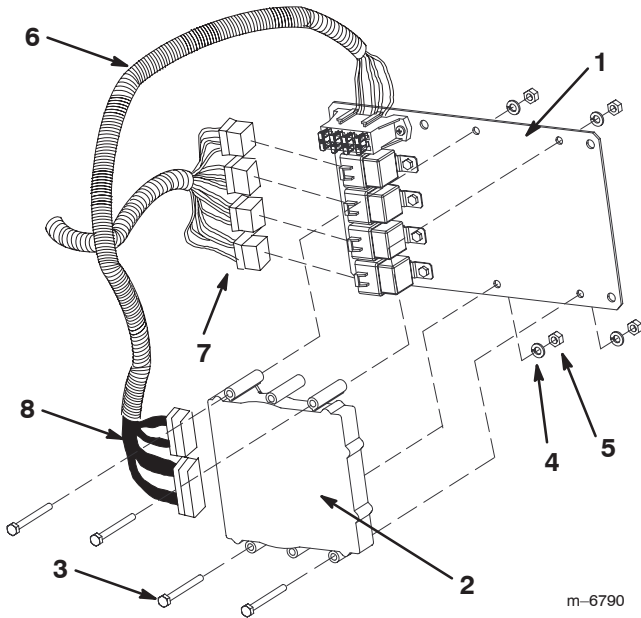

Figure 4
- Secure the ECU to the mount plate (Fig. 4), using 4 bolts (1/4 x 2-1/2 inches), 4 lock washers (1/4 inch), and 4 nuts (1/4 inch).
6. Connect the relay leads on the wiring harness to the 4 relays on the mounting plate (Fig. 4).
7. Connect the 2 controller leads (one long and one short) on the wiring harness to the ECU (Fig. 4).